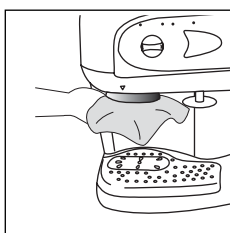

fig. 36
- Clean the boiler with a damp cloth (fig. 36).